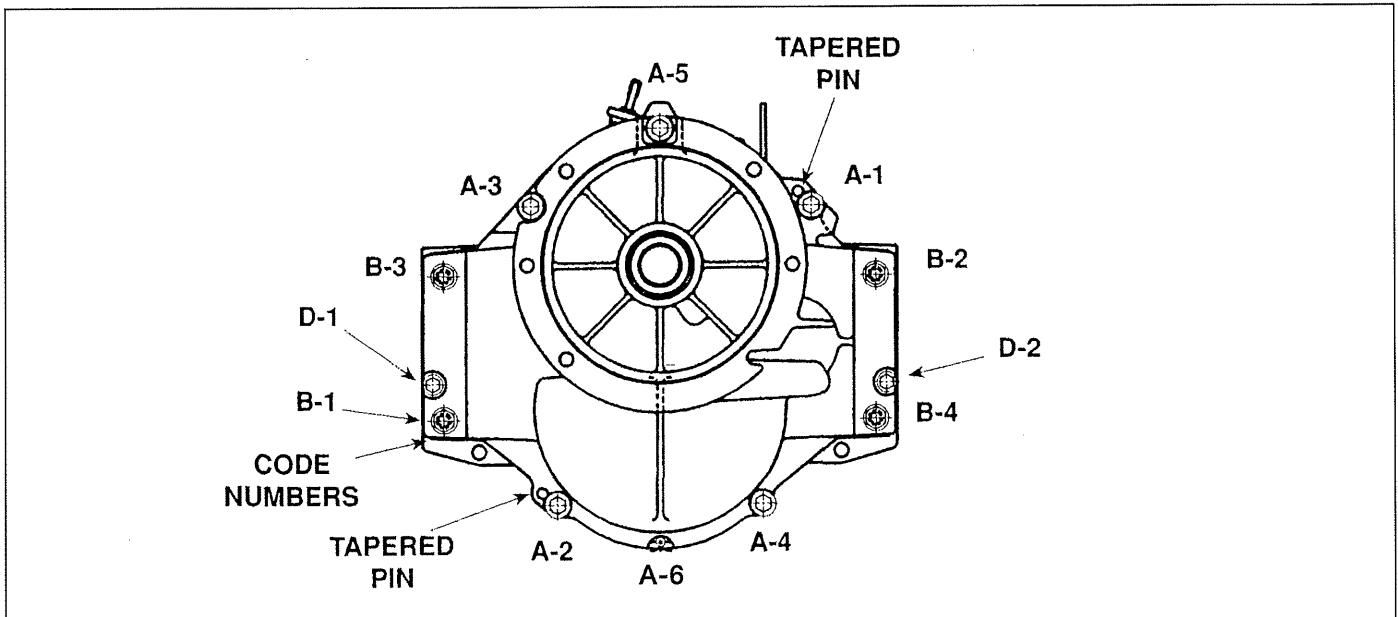

Figure 5-20: Torque Sequence
4. Position case cover and magnet assembly (14) on gasket (15) on case (46). Align holes and install tapered pins (43) using finger pressure only at this time.
6. Lightly tap tapered pins (43) to position cover and hand tighten bolts to snug gasket (15).
7. Firmly tap tapered pins (43) to seat them.
8. Tighten bolts in sequence shown in figure 5-20 diagram to the following final torque:
- a. bolt (8) 24-34 lb-ft (33-46 Nm)
- b. bolt (9) 40-50 lb-ft (54-68 Nm)
- c. bolt (7) 14-16 lb-ft (19-22 Nm)